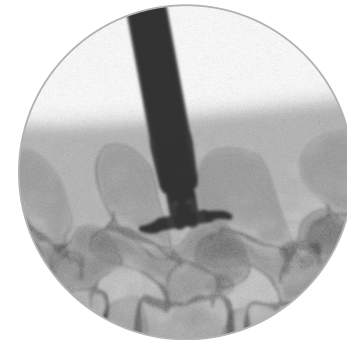

FIG. 11. INSERTER ENGAGED WITH PROXIMAL END OF IMPLANT
3. Insert the Driver instrument through the Inserter and gently rotate until it has engaged the Implant. Fluoroscopy may be employed to assist in positioning the Inserter relative to the Implant (Fig. 11).